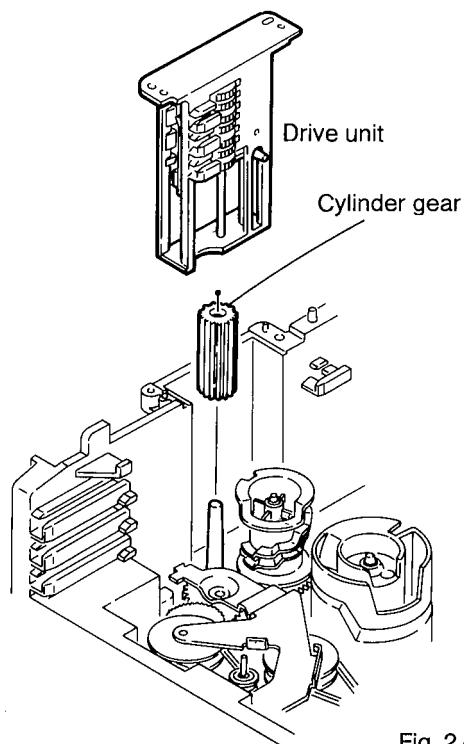

Fig. 2-23
- Pull out the drive unit and cylinder gear (See Fig. 2-23).